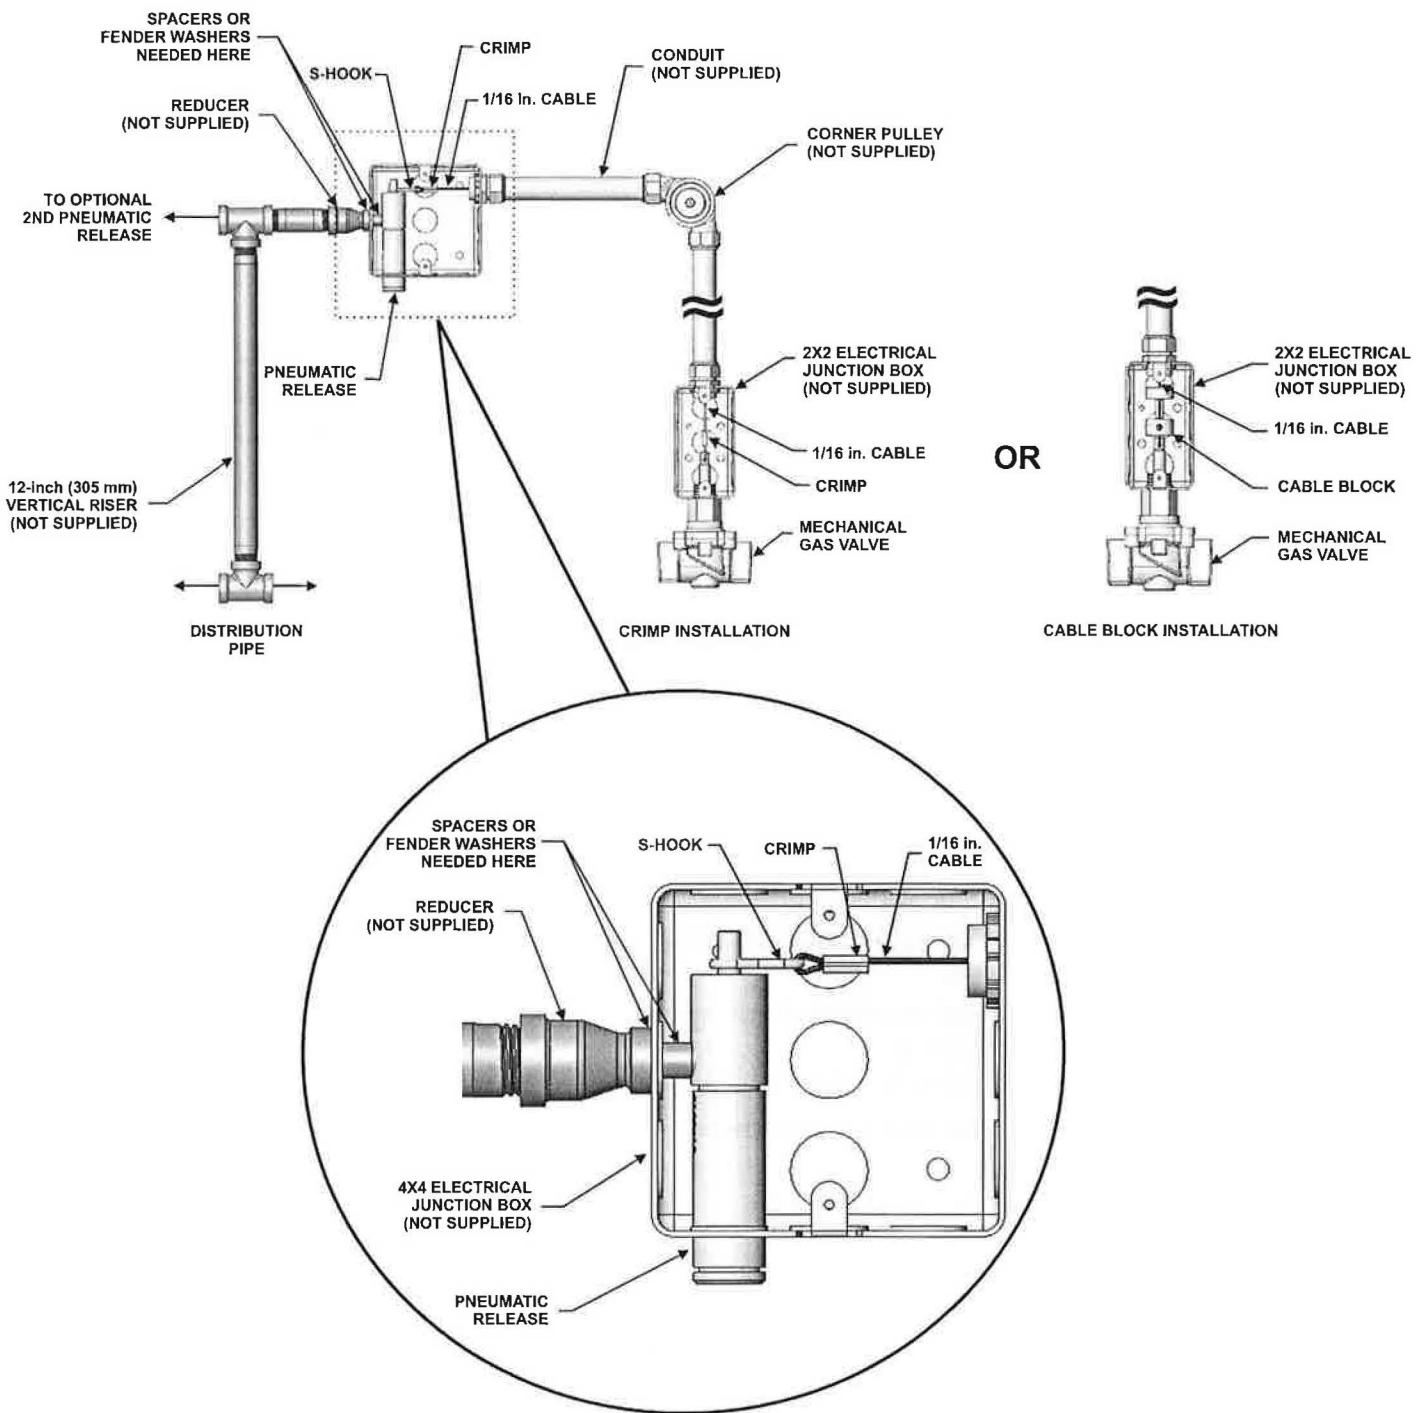

Figure 4-79. Example of a Pneumatic Release Installation
3. Remove three (3) knockouts from a 4x4 electrical box as illustrated in Figure 4-79.
7. Place the pneumatic release through the center knockout of the 4x4 electrical box as shown in Figure 4-79. The 1-1/2-inch x 1/4-inch NPT nipple should extend outside the electrical box.
10. Attach the vertical riser, tee, and piping to the reducer and tighten. Refer to Figure 4-79.
18. Adjust the length of the cable so that the gas valve is in the fully opened position when the "S" hook is placed on the piston rod of the Pneumatic Release. Secure the cable with a crimp or cable block. Refer to Figure 4-79.